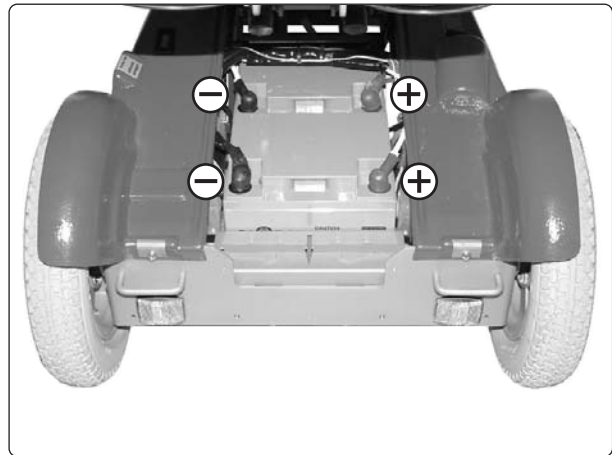

Fig. 12. Battery connections.
6. Disconnect the battery leads, positive terminals first, see fig. 12.